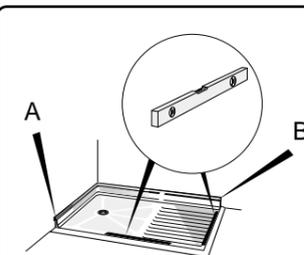

Fig 2.1
Using a pencil mark through the slots and drill the wall 50mm deep (2") using a 5.5mm drill, as Fig 2.1 & 2.2. Apply a film of silicone sealant to the inside edge of the wall channel.
Place the shower tray into the corner and ensure that the shower base is level along its width and length, as Fig 2.1.
Replace the shower tray in position. Check level as Fig 2.1. Insert packing strips to level if required.
*Note: To take up the space underneath the tray (to stop it from flexing) set the tray (showering area only) on a 3:1 dry sand and cement mix. Place tray on top for imprint, remove and position drain. Sprinkle surface with water, place tray on top and hold until secure. Always ensure the tray is level, as shown in Fig 2.1.